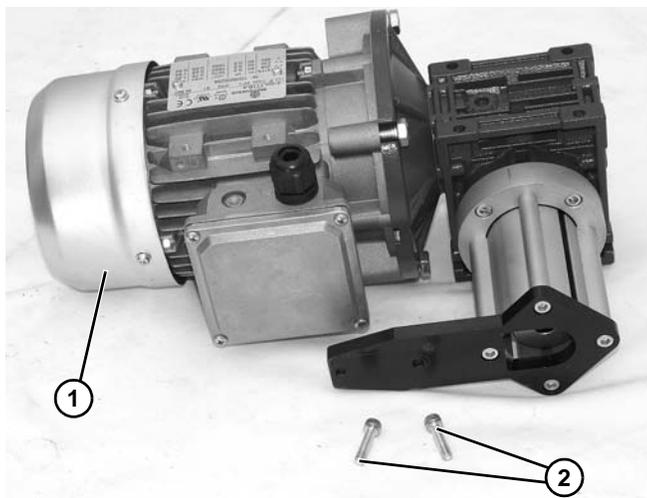

Figure 4
1. Typical components (**Figure 4**)
Flat belt mounting package shown above (Figure 4), cleated belt mounting package similar.